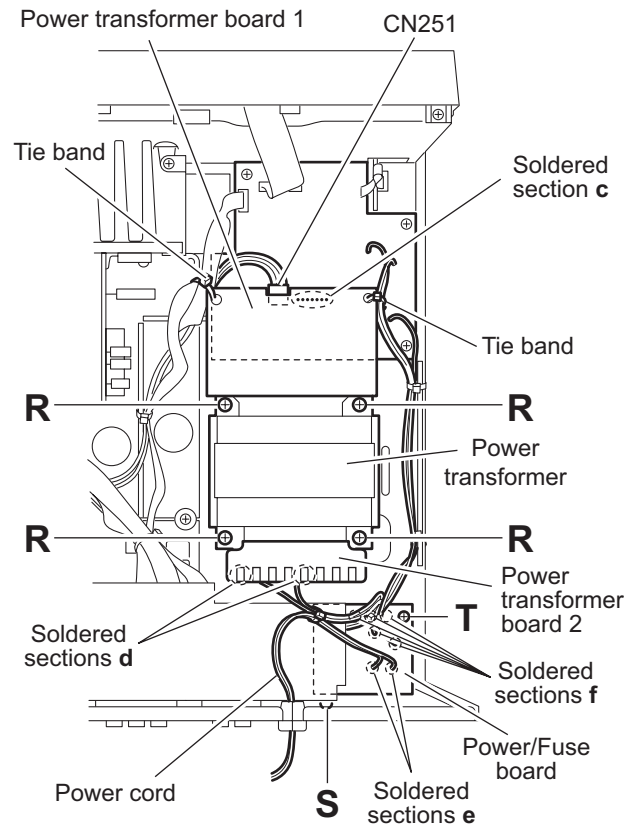

Fig.15
3.12 Removing the power transformer (See Fig.15)
3.13 Removing the power/fuse board (See Fig.15)